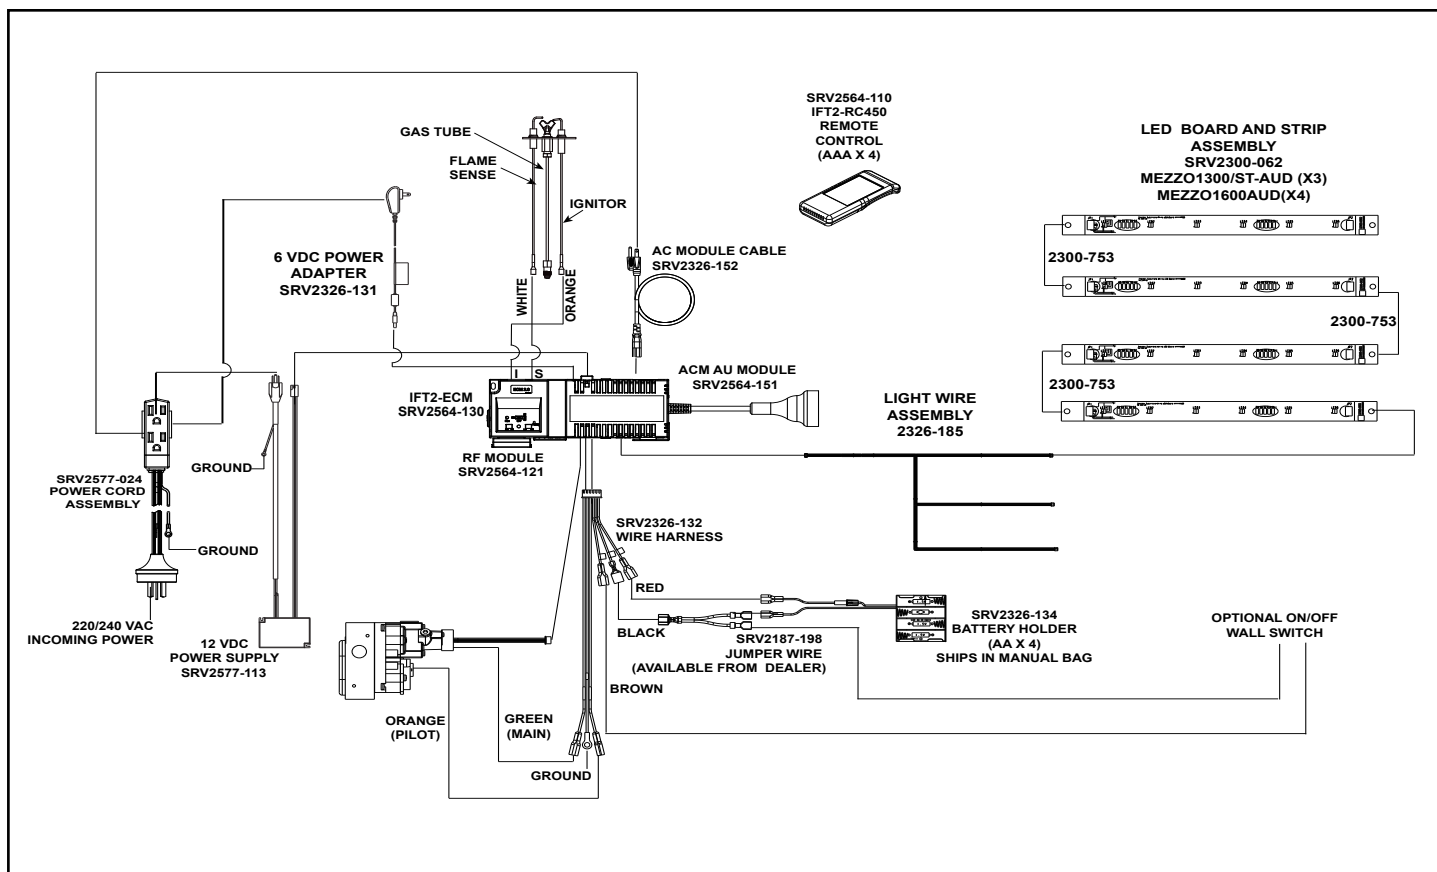

Figure 8.4 IFT 2.0 Wiring Diagram with Remote
- Refer to Figure 8.4, IFT Wiring Diagram.